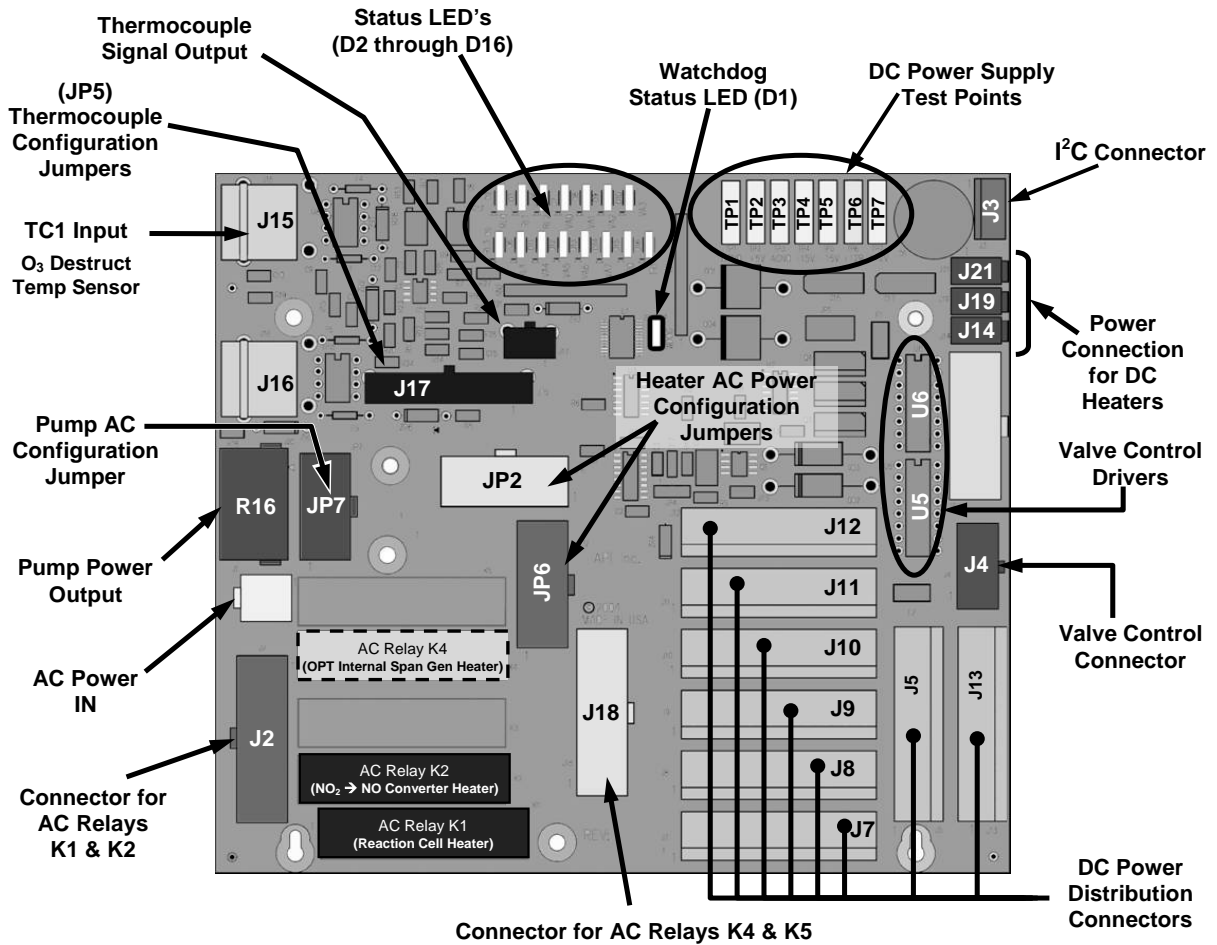

Figure 6-15. Relay PCA Layout (P/N 045230100)
The CPU issues commands via a series of relays and switches located on a separate printed circuit assembly, called the Relay PCA (Figure 6-15), to control the function of key electromechanical devices such as heaters and valves. The Relay PCA receives instructions in the form of digital signals over the I²C bus, interprets these digital instructions and activates its various switches and relays appropriately.
- TC2 (J16) is currently not used (see Figure 6-15 for location of J15 and J16).